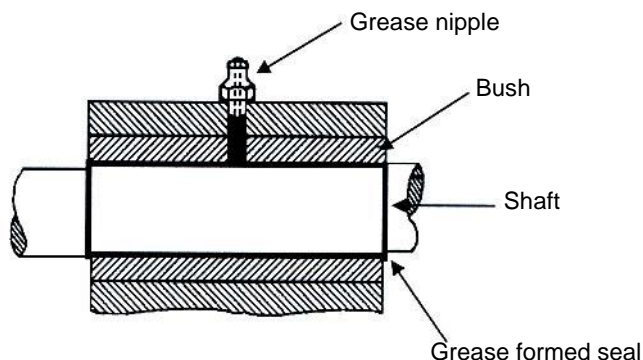

FIG 1.
- Because of friction, heat is generated and the grease becomes thinner. The thinner grease will then escape from the ends of the bearing area, cool down and form a seal. See Fig 1.